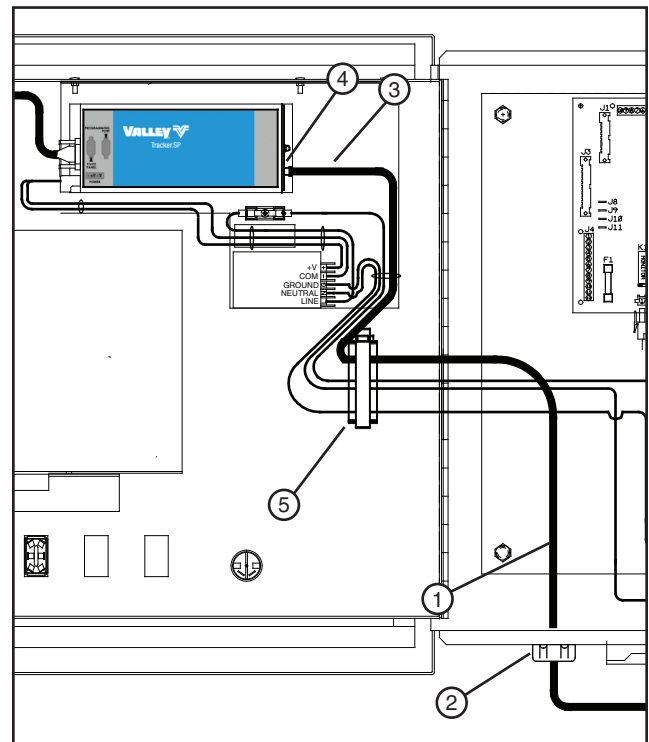

Figure 13-2
9. Route antenna cable up through cord connector in bottom of control panel. See figure 13-2.
10. Connect antenna cable to antenna port on TrackerSP. See figure 13-2.
11. Open flat cable clamp, route all wires and cables through the flat cable clamp then close cable clamp. See figure 13-2.